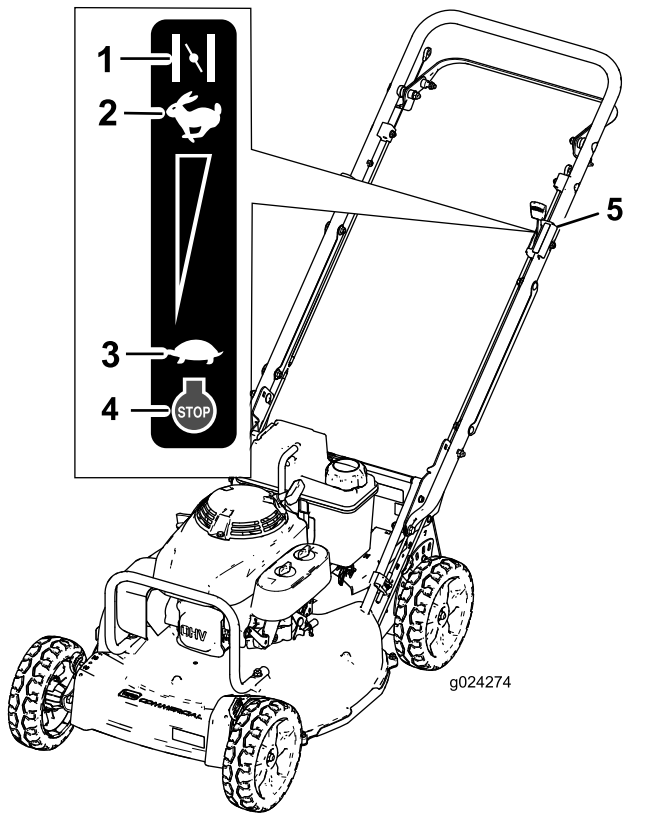

Figure 13
3. Move the throttle-control lever to the Choke position (Figure 13).
- When the engine starts, move the throttle-control lever to the Fast position (Figure 13).
Release the blade-control bar and move the throttle-control lever to the Stop position (Figure 13).